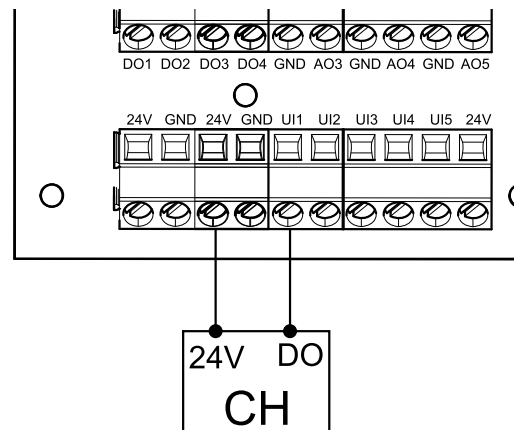

Fig. 9 Connection of the cooker hood
1. Connect control signal wires from the cooker hood to any free universal input and 24 V on the external connection board (figure 9). For more information about connection board see 8.2 *External connections (Connection board)*, page 50.